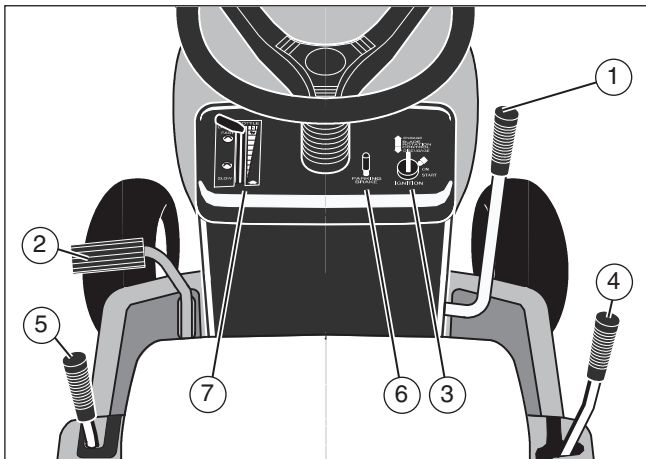
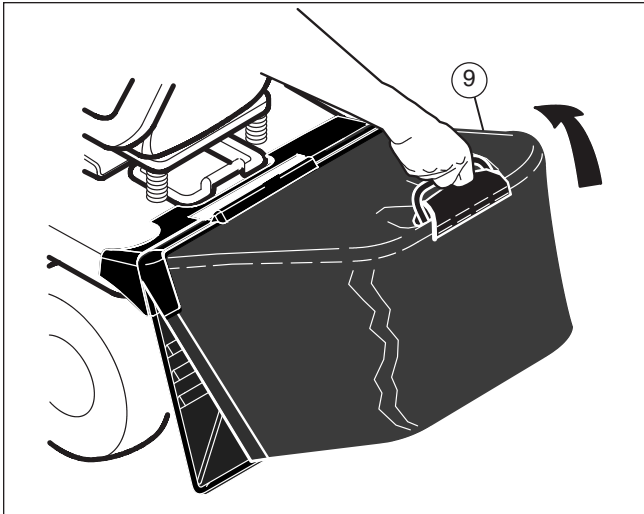

Figure 13
Figure 16
Blade Rotation Control (1): Use the blade rotation control to start and stop the rotation of the blade (see **Figure 13**).
Use the throttle control (7) to increase or decrease the speed of the engine (see **Figure 13**).
Use the blade rotation control (1) to engage the blade(s) (see **Figure 13**).
1. Before you start the engine, make sure the blade rotation control (1) is in the **DISENGAGE** position.
1. Completely push the clutch/brake pedal (2) forward to stop the unit. Keep your foot on the pedal (see **Figure 13**).
2. Move the throttle control lever (7) to the **SLOW** position.
3. To go forward, move the shift lever (4) to a forward speed setting. To go backward, move the shift lever to reverse.
1. Completely push the clutch/brake pedal (2) forward (see **Figure 13**).
2. Lift the parking brake lever (6).
To change the cutting height, raise or lower the lift lever (5) as follows (see **Figure 13**).
2. Move the blade rotation control (1) to the DISENGAGE position.
3. Move the shift lever (4) to the NEUTRAL position.
1. Move the blade rotation control (1) to the DISENGAGE position (see **Figure 13**).
2. Raise the lift lever (5) to the highest position.
3. Move the throttle control (7) to a position between SLOW and FAST.
4. To go faster, move the shift lever (4) to a faster speed.
2. Move the lift lever (5) to a height of cut position (see **Figure 13**). In high or thick grass, cut the grass in the highest position first and then lower the mower housing to a lower position.
3. Move the throttle control (7) to the SLOW position.
4. Slowly move the blade rotation control (1) to the ENGAGE position.
5. Push the clutch/brake pedal (2) completely forward.
6. Move the shift lever (4) to one of the speed settings.
1. Before you ride up or down a hill, move the shift lever (4) to the slowest speed (see **Figure 13**).
2. Do not stop or change speed settings on a hill. If you must stop, quickly push the clutch/brake pedal (2) forward and set the parking brake.
3. To start again, make sure the shift lever is in the slowest speed. Move the throttle control (7) to the SLOW position. Slowly release the pedal.
2. Move the throttle control (7) to FAST position (see **Figure 13**).
3. Move the shift lever (4) to FIRST position. To fill the grass bag, always operate at the slowest speed.
2. Move the shift lever (4) to the neutral (N) position.
3. Engage the parking brake (6).
4. Raise the rear of the grass bag (see **Figure 16**).